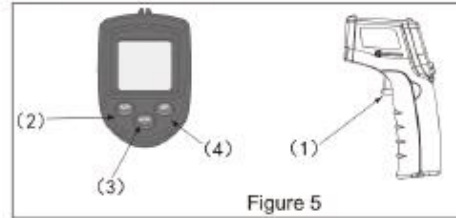

Figure 5
2. Diagram description : Figure 5